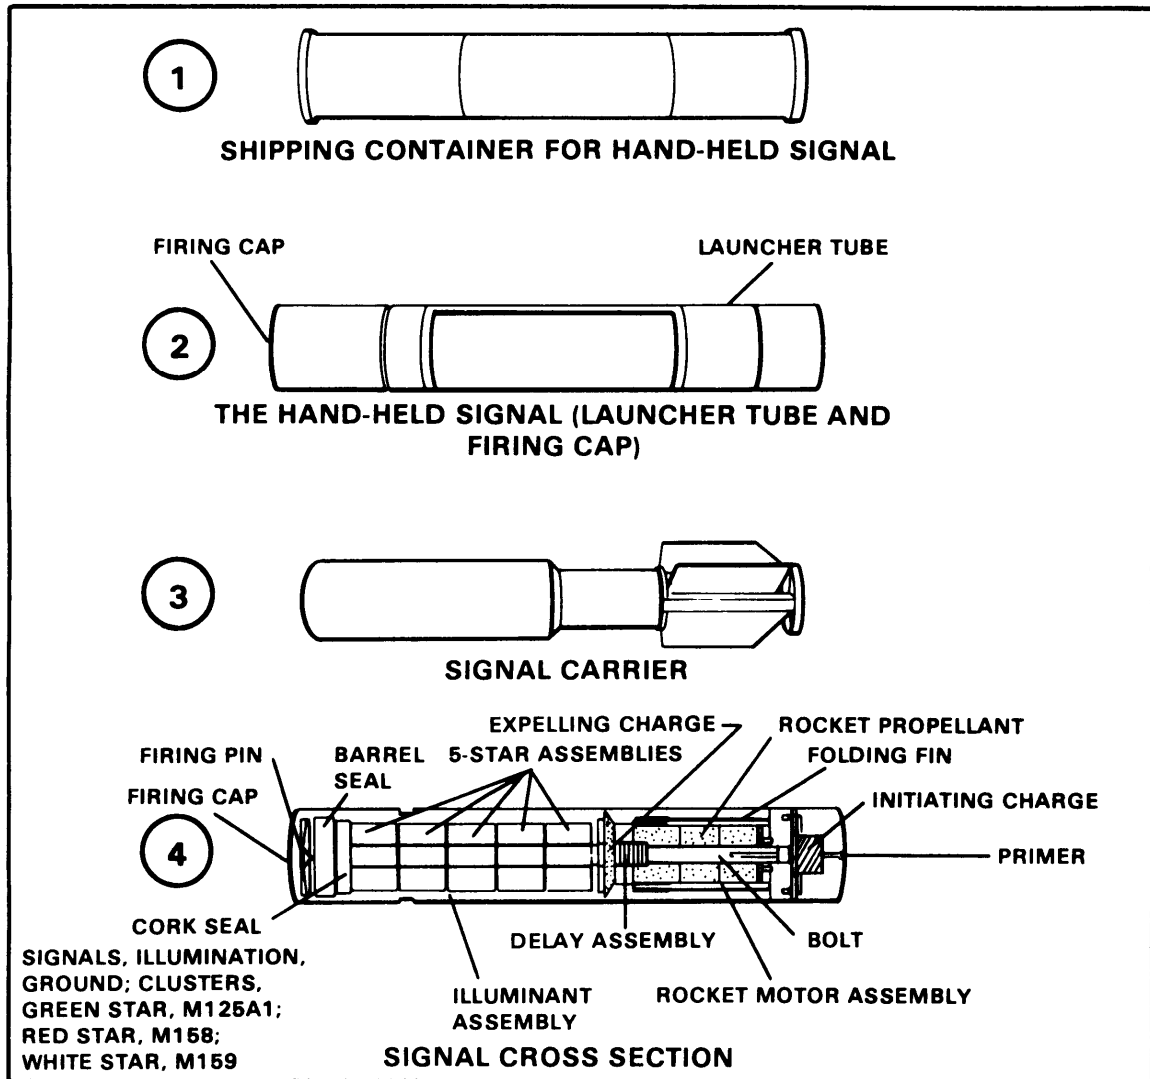

Figure 5-1. Ground pyrotechnic signals.
a. Star Clusters. Star clusters are used for signaling and illuminating. They are issued in an expendable launcher, which consists of a launching tube and a firing cap (1, 2, 3, and 4, Figure 5-1). These signals produce a cluster of five free-falling pyrotechnic stars.